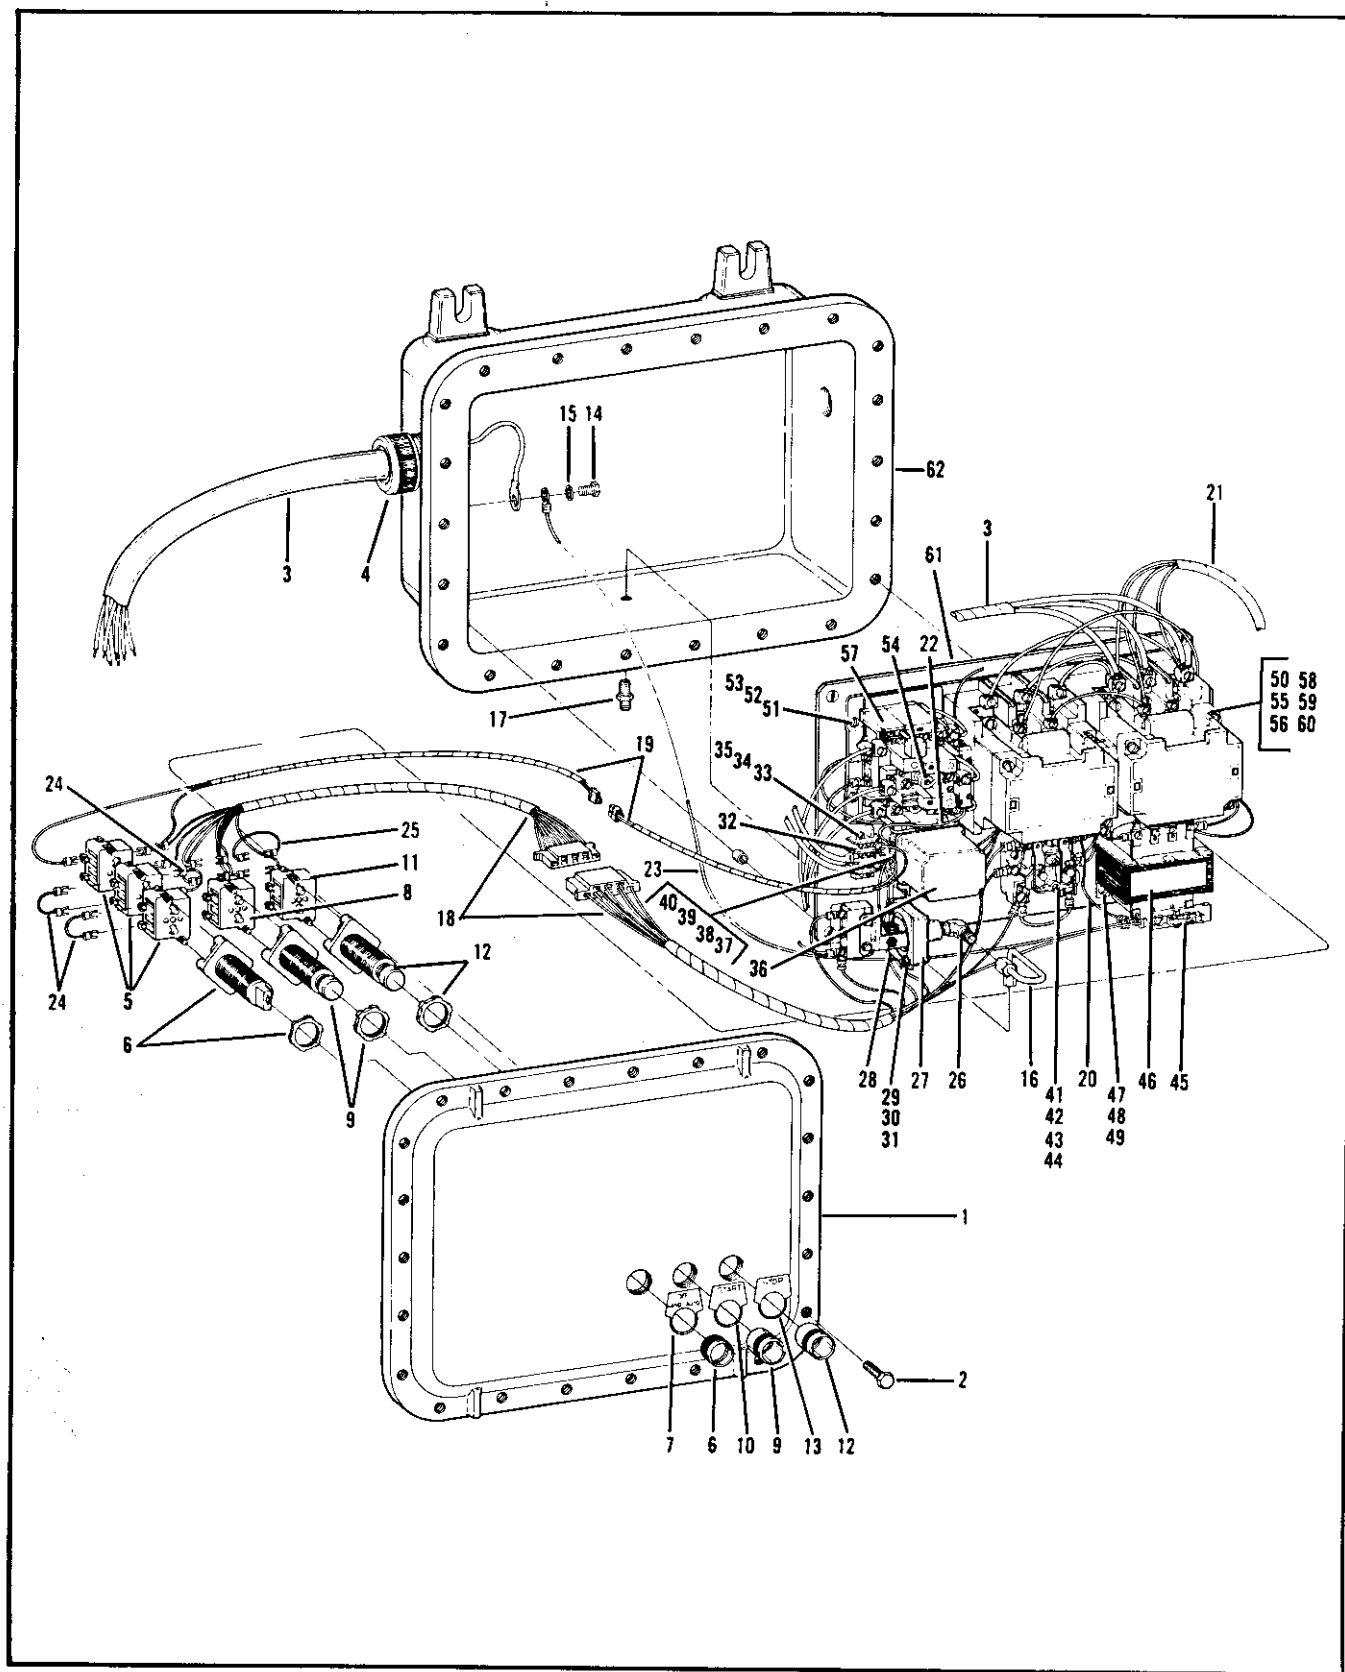

Figure 3-3. Motor Control Box Assembly
3-4. MOTOR CONTROL BOX DISASSEMBLY (Figure 3-3). Disassemble the motor control box assembly as follows:
KEY to figure 3-3:
- d. Disconnect and remove wire numbers 40, 45, 46 from selector switch contact blocks (5, figure 3-3). Disconnect and remove wire number 39 from stop switch contact block (11) and start switch contact block (8). Disconnect W1 wiring harness (18) and W2 wiring harness (19) leads from the control switches contact blocks (5, 8, 11).
- e. Remove three contact block assemblies (5), selector switch (6) and switch plate (7). Remove contact block assembly (8), start pushbutton switch (9) and switch plate (10). Remove contact block assembly (11), stop pushbutton switch (12) and switch plate (13).
- f. Disconnect and remove the pressure switch tube assembly (16) and bulkhead union (17). Disconnect all lead connections of W1 wiring harness (18) and W2 wiring harness (19) and remove the harnesses. Disconnect and remove W3 wiring harness (20) and W4 wiring harness (21). Disconnect and remove wire assembly number 29 (22, figure 3-3). Disconnect and remove ground wire number 47 (23).
- h. Remove elbow (26, figure 3-3) from pressure switch (27). Remove nuts and lock washers that attach pressure switch (27) to mounting bracket; remove pressure switch and assemble lock washers and nuts just removed back onto pressure switch screws to prevent their loss. Remove two nuts (29), lock washers (30), machine screws (31) and mounting bracket (28).
- i. Remove two nuts (33), lock washers (34), machine screws (35) and remove the terminal block (32). Remove the phase sensing relay (36). Remove two nuts (38), lock washers (39), machine screws (40), and the octal base (37).
- j. Remove two nuts (42), lock washers (43), machine screws (44), and the control relay (41). Remove fuse (45). Remove four nuts (47), lock washers (48), machine screws (49), and the transformer (46).
- k. Remove three nuts (51), lock washers (52), machine screws (53), and the starter assembly (50) from mounting board (61).